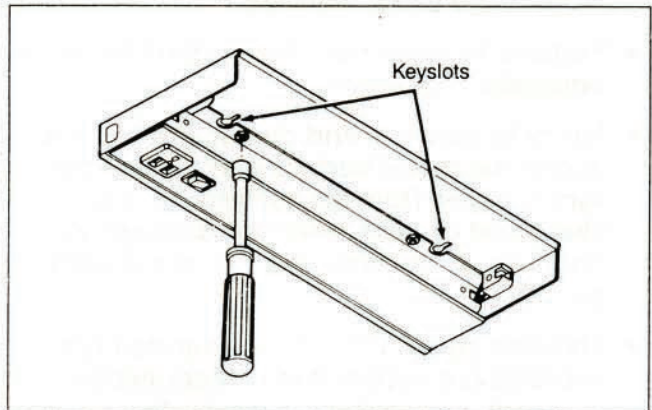

Figure 5.
2. Locate housing in desired mounting position as shown in Figure 5. Mark the location of the two mounting screws by tracing through the key slots in the housing. (Drill holes if necessary in slot sections of tracing.)
2. Using a 11/32" socket, remove the two nuts securing the wireway as shown in Figure 5. Remove the wireway from the housing.